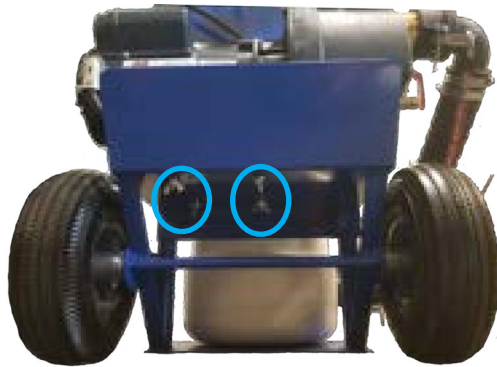

Figure 22: Remove wing nuts to remove pump from cart
- 2) Remove the wing nuts (Figure 22)